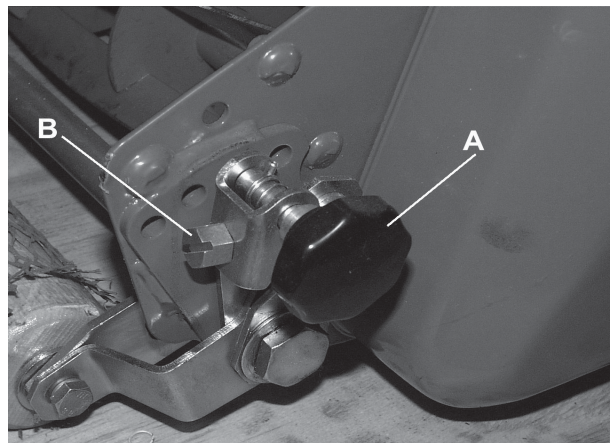

Fig. 8.1b
45cm and 51cm (18in and 20in) machines (Fig. 8.1b) Pull out the pin (A) on both sides of the machine and replace it in one of the other 3 holes (coarse adjustment). Towards the front of the machine will increase the height of cut, towards the back of the machine will lower the height of cut. For fine adjustment the screw (B) should be turned.